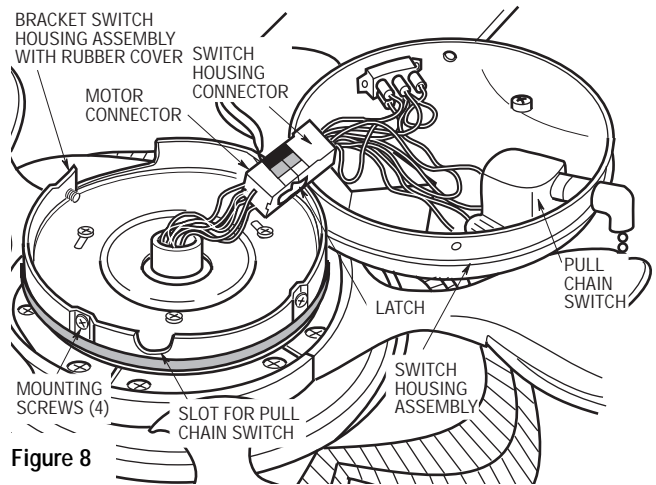
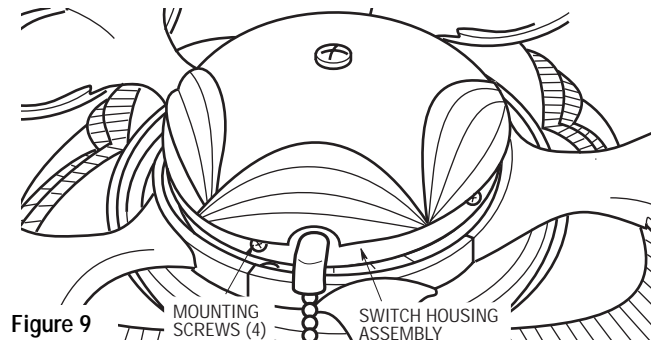

Figure 8
Figure 9
- 14. Engage the connector of the switch housing assembly with the motor connector (Figure 8). The two connectors are keyed and color-coded and must be mated correctly (color-to-color) before they can be engaged. Make sure the connector latch closes properly.
- 15. Remove the four mounting screws from the bracket switch housing assembly with rubber cover (Figure 8). Position the switch housing assembly on the bracket switch housing assembly with rubber cover and secure using the four mounting screws (Figure 9).
NOTE: The switch housing assembly must be oriented so that the pull chain switch will fit into the rounded slot (Figure 8) in the bracket switch housing assembly with rubber cover.